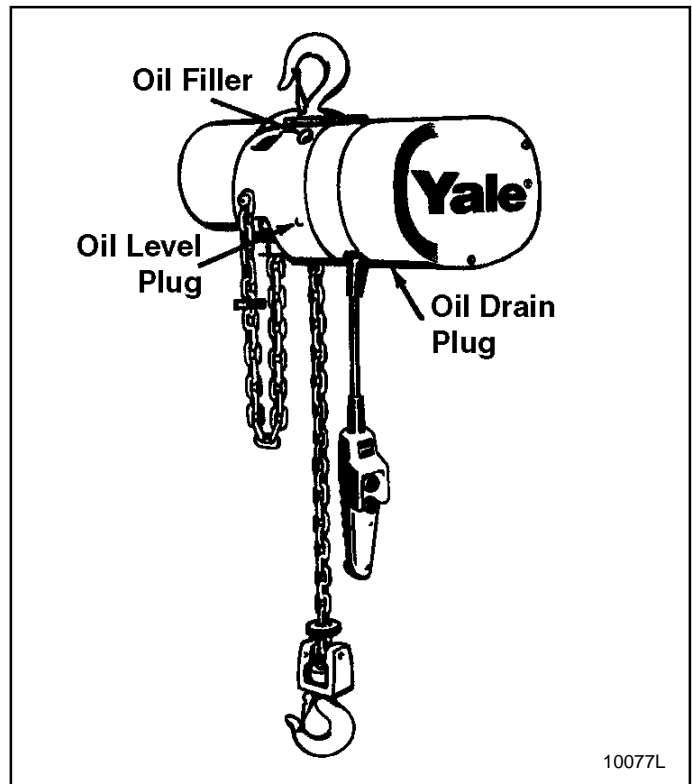

Figure 4-1. Location of Oil Filler and Plugs
4-2. CHANGE GEAR CASE OIL (Fig. 4-1).
(1) Check to see that bolts securing motor to frame are tight. Also check for any visible damage to motor, such as a cracked end bell or dented stator housing. Replace damaged parts.
(2) Check hoist frame for signs of visible damage. If frame shows evidence of fracture, the hoist should be disassembled and inspected for further signs of damage from possible overloading. Replace damaged parts.
(3) Check for possible damage to electrical compartment cover. Be sure screws holding cover are tight.
**e. Check Oil Level.** Remove oil level plug (fig. 4-1). If oil level is not even with bottom of tapped hole, add Automatic Transmission Fluid, DEXRON Type, to bring to proper level.
(1) Check all wiring and terminals. Insulation should be sound and terminals securely crimped to wires. Terminal screws should be tight and plug-type terminals completely mated. Replace terminals or wires as necessary.
(2) Check control circuit transformer for evidence of overheating. Replace if necessary.
(3) Check limit switch to see that wires are securely attached and mounting screws are tight.
(4) Check contactor solenoid coils and replace coils if they show evidence of overheating.
(5) Check control cable wire strain reliever to see that it is in good condition and securely attached to gear case cover. Replace rubber strain reliever grommets if damaged.